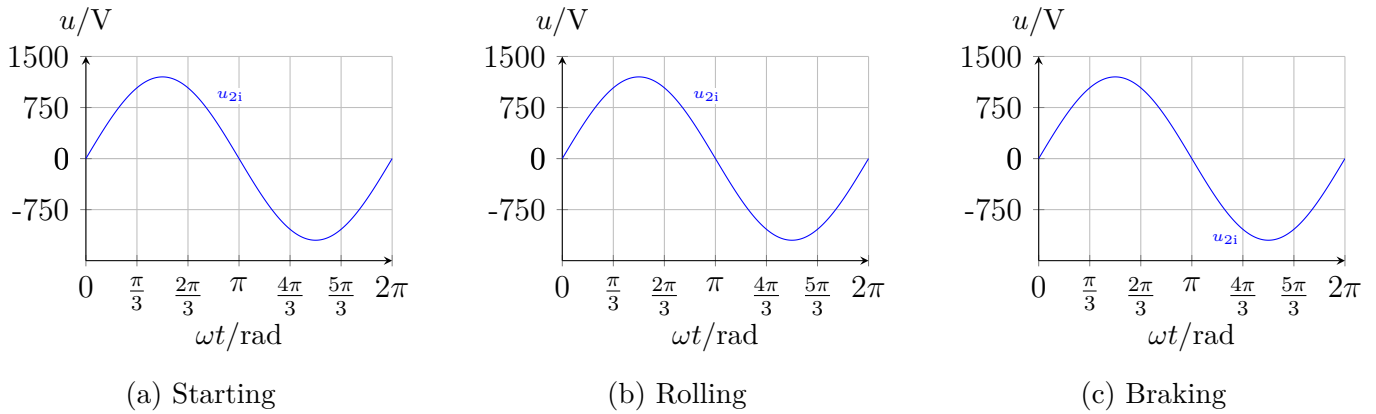

Figure 8: Signals $u_2^{(1)}(t)$, $u_L^{(1)}(t)$, $i_2^{(1)}(t)$ in different operating modes.
4.1 Qualitatively add into Fig. 8 the fundamental components $u_2^{(1)}(t)$, $u_L^{(1)}(t)$, and $i_2^{(1)}(t)$ for different operating modes of the locomotive: [3 Points]